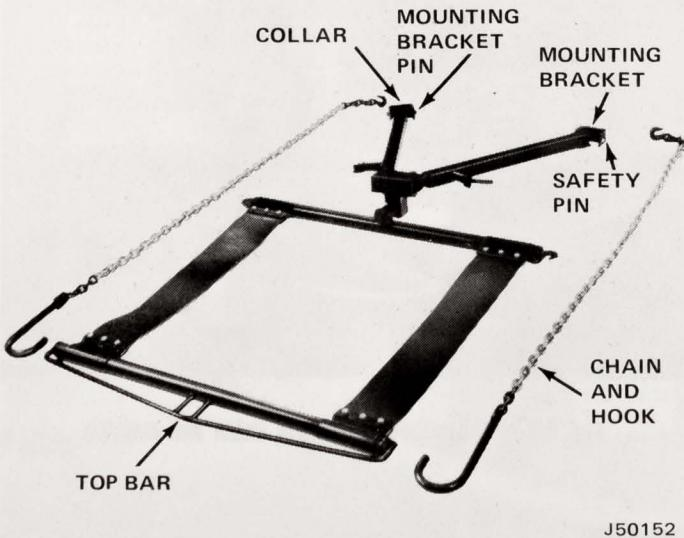
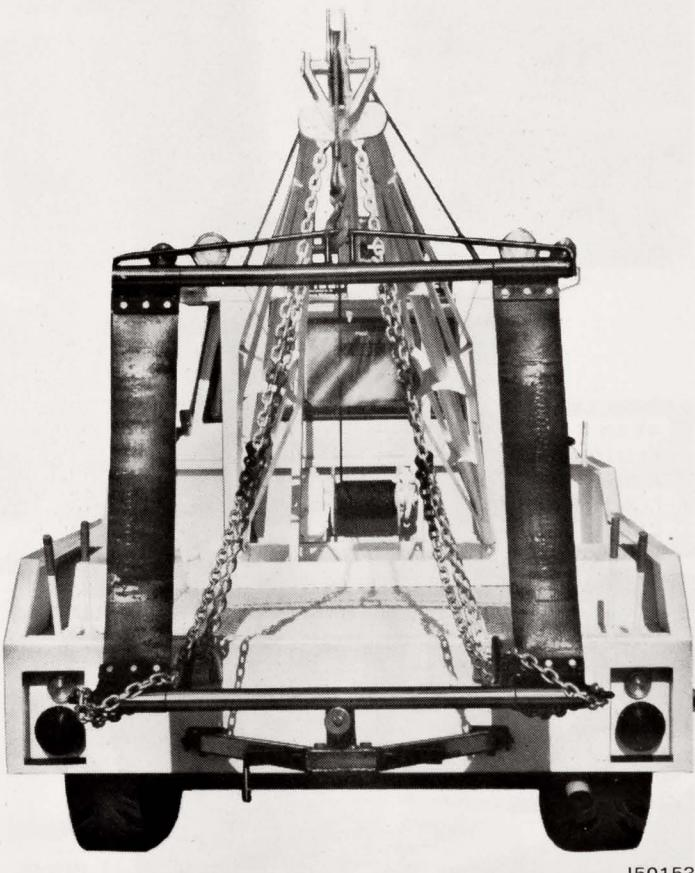

Fig. 10-9 Passenger Car Sling—Assembled View
Fig. 10-10 Passenger Car Sling—Installed View
(1) Hook main lift cable into top bar and raise complete sling assembly with main lift cable (fig. 10-9).
(2) Position mounting brackets on rear of wrecker body.
(3) Use mounting brackets as template to locate mounting bolt holes.
(4) Drill four 1/2-inch diameter holes in rear of wrecker body.
(5) Remove safety pins securing mounting bracket pins and mounting brackets to collars (fig. 10-9). Remove pins and brackets.
(6) Position mounting brackets on wrecker body and secure with mounting bolts, lockwashers, and nuts. Tighten nuts to 39 foot-pounds torque.
(7) Position collars in mounting brackets and install mounting bracket pins. Secure bracket pins with safety pins.
(8) Install chain and hook assemblies (fig. 10-10).